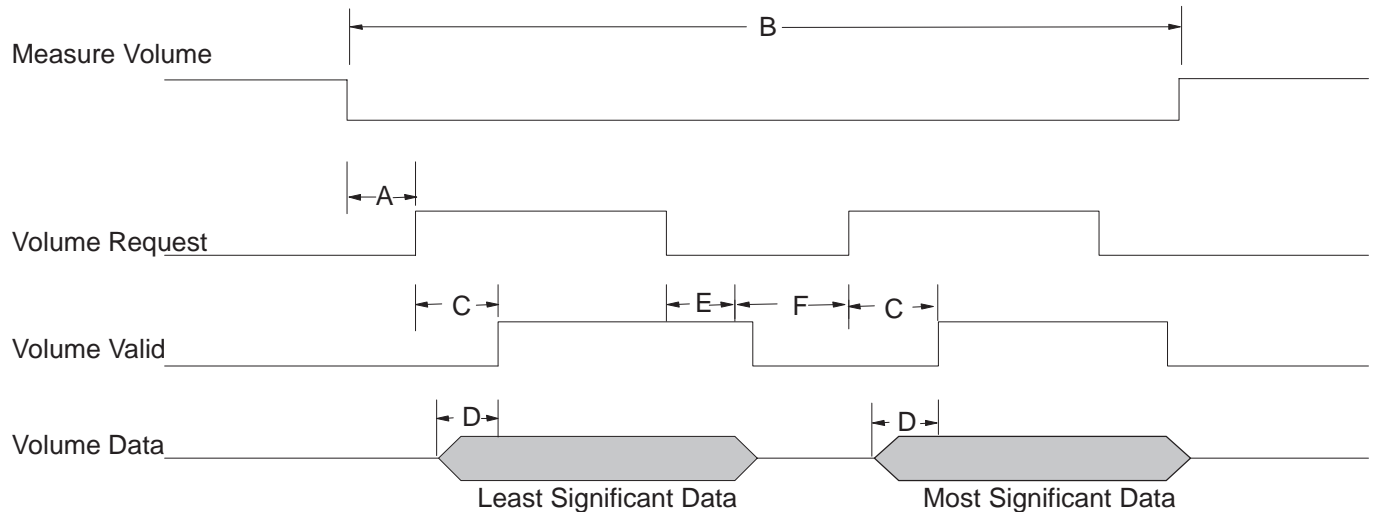

Fig. 37
4. On completion of the cycle, if volume information is requested, the PrecisionFlo module uses the data bus to transfer the volume data. (See Figure 37, Volume Reporting on page 59.)
The volume dispensed during the last job is available on the data bus at the end of a cycle. This information is reported in two groups of 5 bits which combine to form a 10-bit binary code that measures the volume dispensed in the previous cycle in cubic centimeters (Fig. 37).